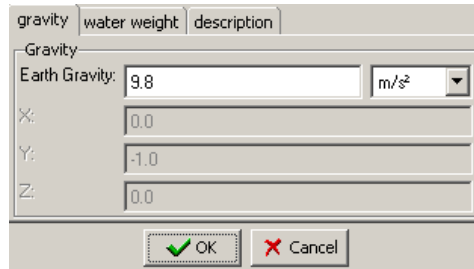

Figure 1.4 The *Project* window
- Double click the *General Settings* item to open the *General Settings* window (see Figure 1.4). In the *Gravity* tab sheet leave the *Earth gravity* to its default value of 9.8 m/s^2 and the *Water weight* in the *Water weight* tab sheet to its default value of 10 kN/m^3 .